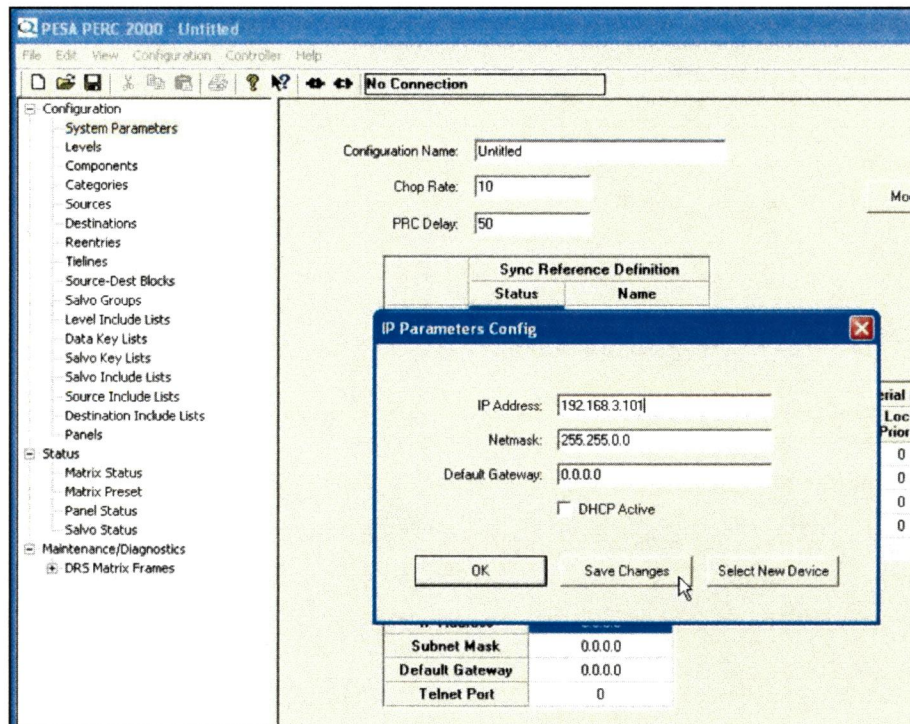

Figure 31. IP Address Data Entry Box
7. The Select Device box will clear and the IP Parameters Config box, Figure 31, is displayed. Note when the box initially appears, the IP address listed is the current address of the controller. Click in the IP Address block and remove the currently listed IP address. Enter the “new” IP address you have selected as the base IP address for the P1K controllers. If, based on your network requirements, you also need to assign a “new” Netmask or Default Gateway setting, enter the desired values in the Netmask and Default Gateway boxes. Default values for these settings are as shown in Figure 31: